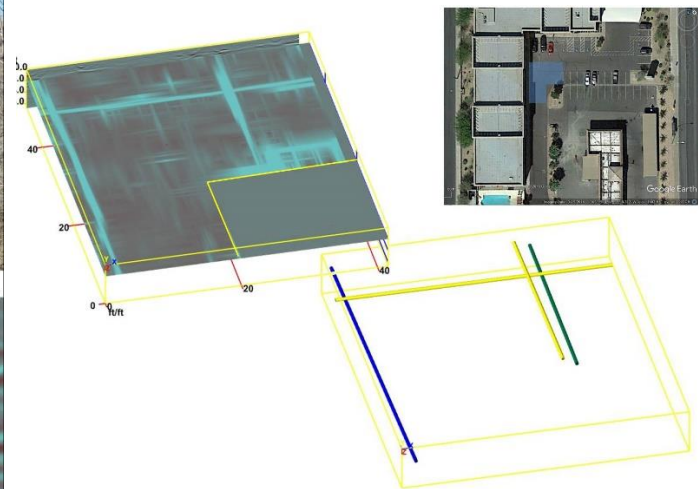

Figure 2: 3D Survey Example.
**3D Surveys (Figure 2):** A maximum of a half-an acre can be surveyed per day under ideal conditions (perfectly flat, no vegetation, obstacles, or debris, square or rectangular area). 3D GPR surveys consist of orthogonal grids up to 50 X 50 meters with each line separated by between 0.25 and 1 meter, depending on the resolution required by the client. The grids, as much as possible based on the size and